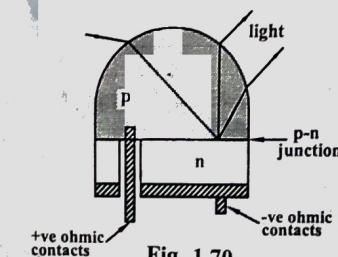

Fig. 1.70
- (i) By making the 'p' material in the shape of a hemispherical dome (fig.1.70). The angle at which the light strikes the interface can be made less than the critical angle and hence the light will not be lost by total internal reflection.